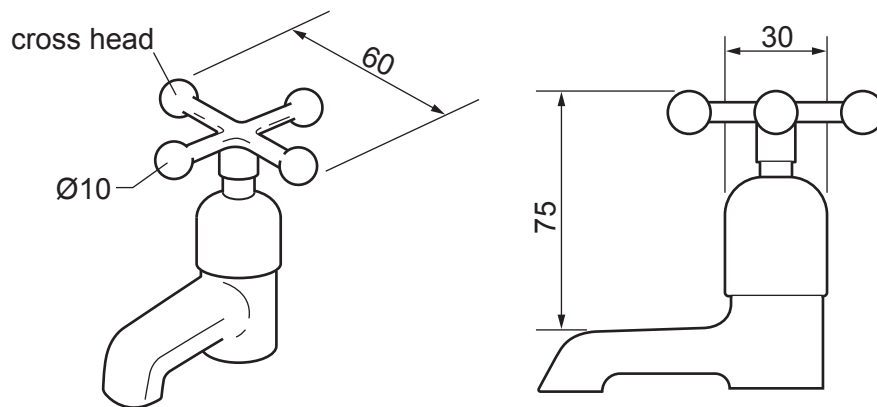

Fig. 10.1
- 10 Fig. 10.1 shows details of a cross head water tap.